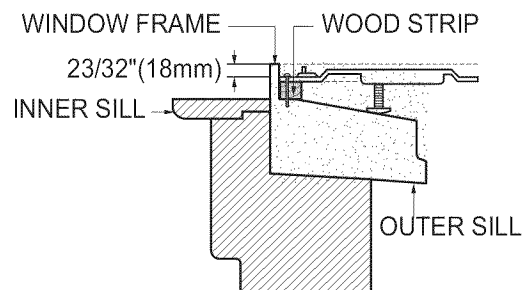

FIG. 12
- * Dimensions and geometry of windows are different according to manufacturer's. Check your window and refer to FIG.12 to install the support bracket firmly.